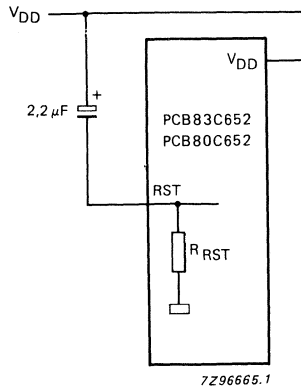

Fig. 13 Power-on reset.
**Power-on reset** (see Fig. 13)